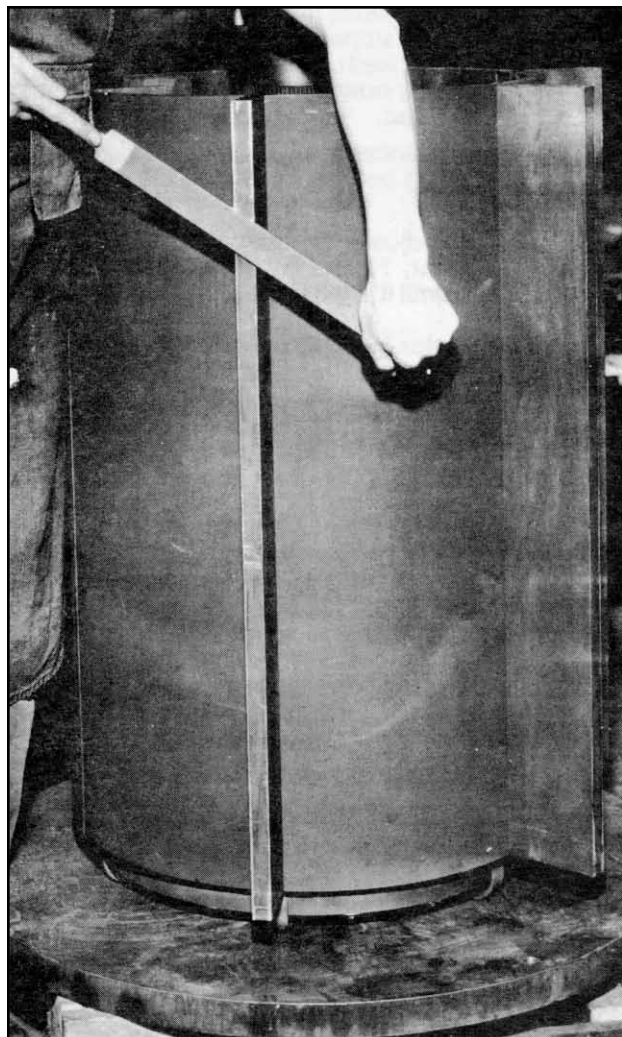

Figure 29
- Support the rotor assembly in vice or vertically on wood blocks of sufficient height so that the blade ends can be dressed down the full length, Figure 29.